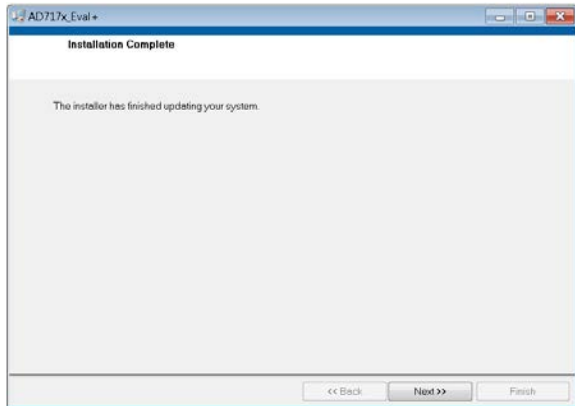

Figure 10. **AD717x Eval+** Installation Complete
- The message in Figure 10 appears when the installation is complete. Click **Next** to continue.